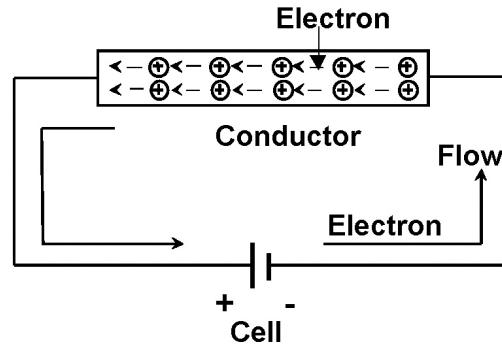

Figure 3
When a battery is connected as shown in Figure 3 below, the free electrons in the conductor drift in one direction only, away from the negative plate and towards the positive plate. Current that flows in one direction only, is called *Direct Current (DC)*.